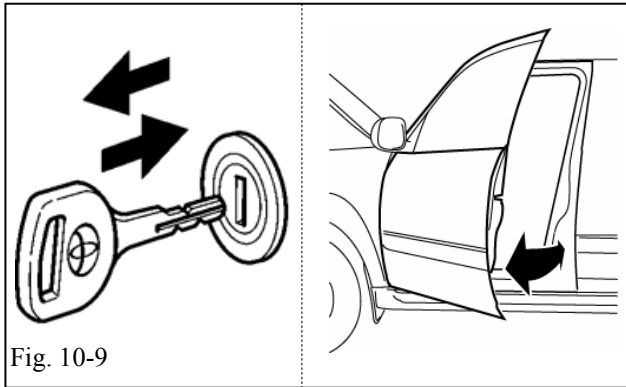

Fig. 10-9
- (n) Insert and remove the Key into the ignition. Repeat 6 times. (Fig. 10-9)
- (o) Insert and leave the key in the ignition. (Fig. 10-9)
- (p) Close the Driver's Door. (Fig. 10-9)
- (q) Open, and close the Driver's Door. Repeat 7 times. (Fig. 10-9)
- (1) Complete these steps within 35 seconds.